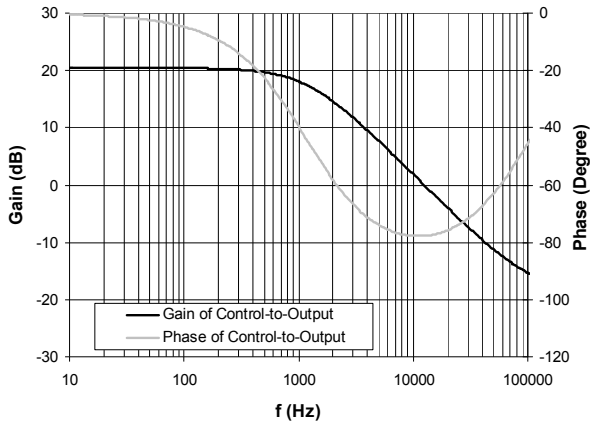
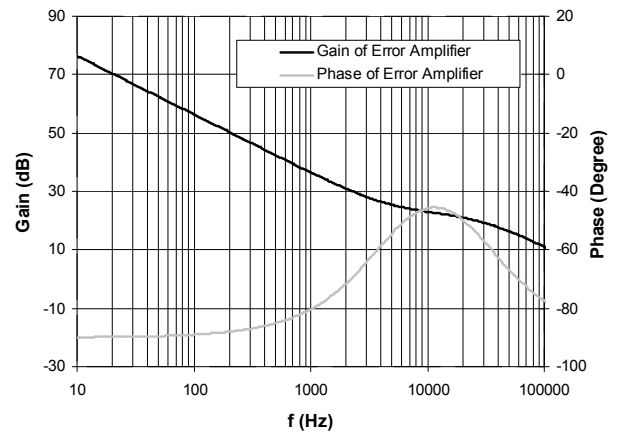
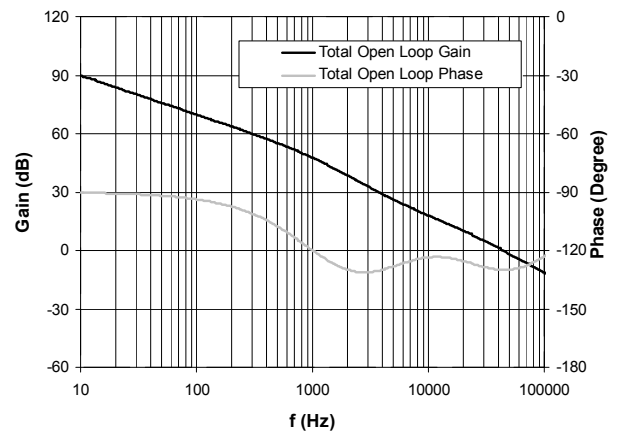

Figure 7. Control-to-Output Bode Plot
Figure 8. Error Amplifier Bode Plot
Figure 9. Total Open Loop Bode Plot
The gain and phase of the control-to-output transfer function predicted by the equation (29) are shown in Figure 7. The gain and phase of the error amplifier transfer function predicted by the equation (32) are shown in Figure 8. The total open-loop bode plot predicted by the equation (35) is shown in Figure 9.
The crossover frequency of this MIC2124 buck converter is 40kHz and the phase margin is about 50°, as shown in Figure 9.